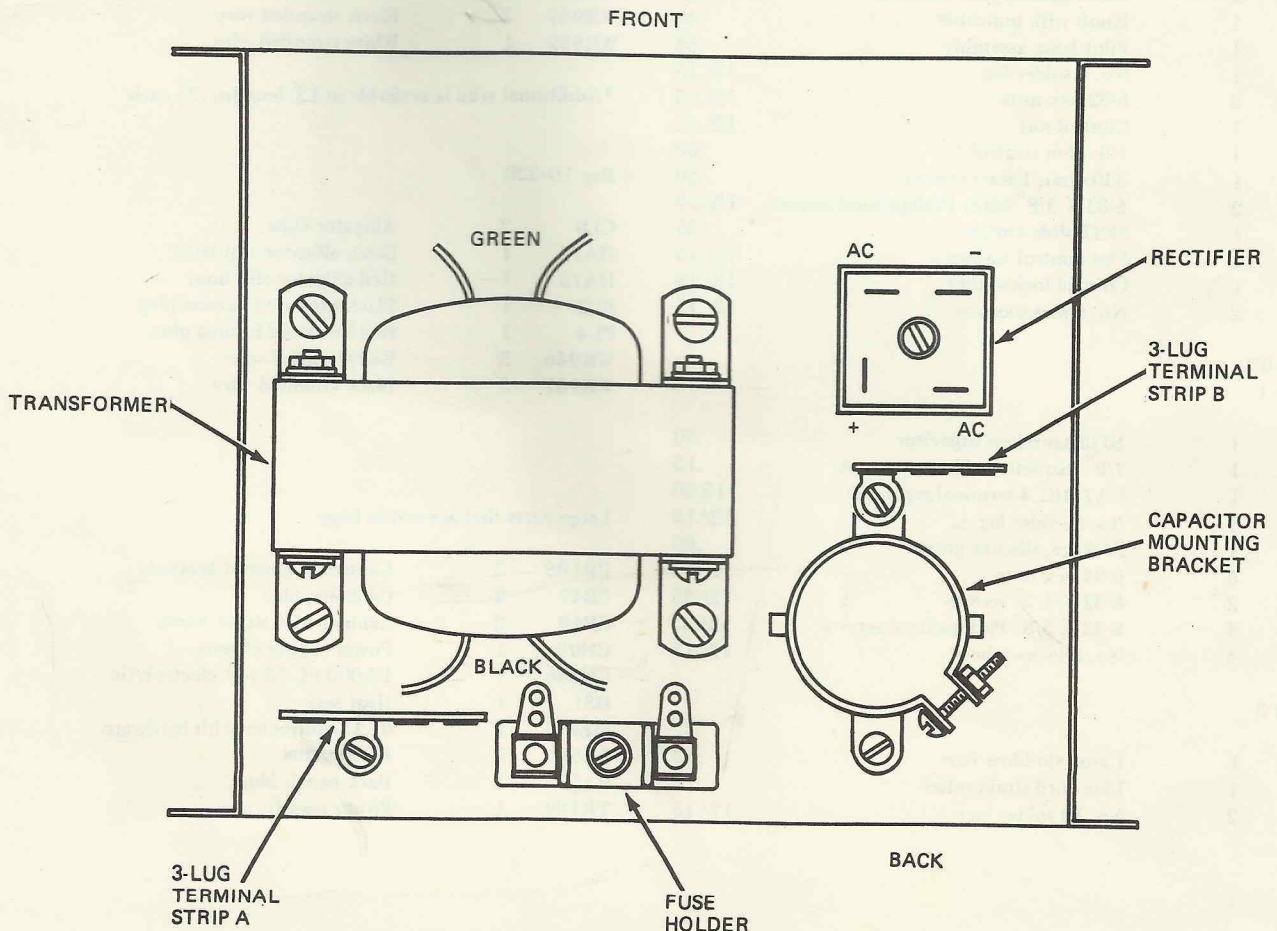

Fig. 1. Top view of the power supply chassis with the parts mounted.
Figure 1 is a top view of the chassis with the parts mounted on it. This is the way you will see the chassis with the long side pieces pointing up. You will need parts from the bag marked "2A-320."
(1) Locate the rectifier and mount it as shown in Fig. 1 using a 3/4" long 6-32 screw. Put the screw through the top of the rectifier and through the hole in the chassis. Then put a lockwasher and nut on the screw and tighten with the rectifier in the position shown. Notice two terminals are marked ac, one terminal is marked with a plus (+) sign, and another is